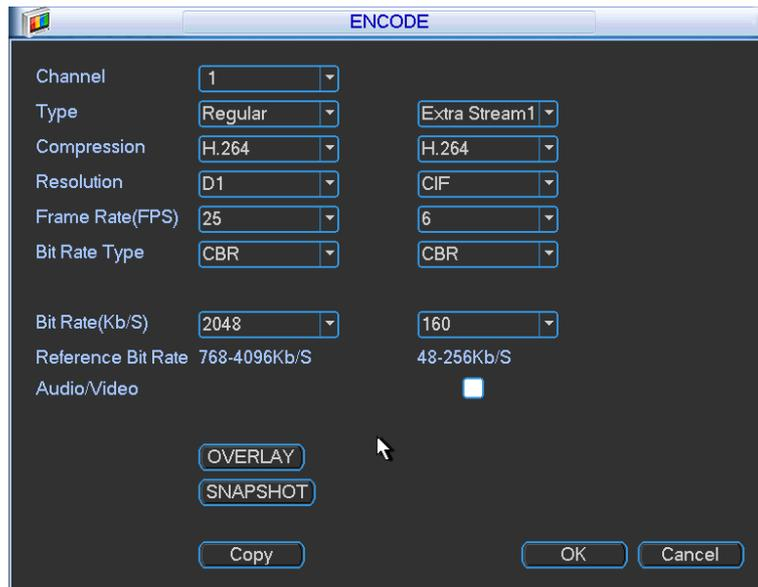
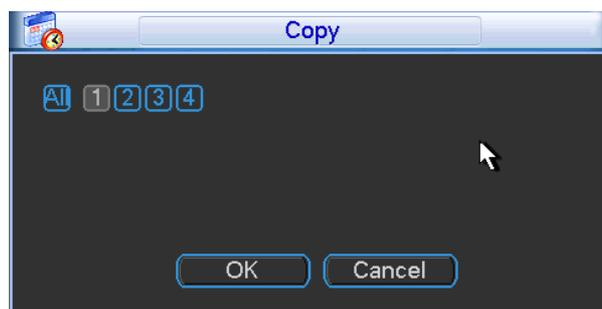

Figure 4-27
Figure 4-29
Encode setting includes the following items. See Figure 4-27.
- Copy: After you complete the setup, you can click Copy button to copy current setup to other channel(s). You can see an interface is shown as in Figure 4-29. You can see current channel number is grey. Please check the number to select the channel or you can check the box ALL. Please click the OK button in Figure 4-29 and Figure 4-27 respectively to complete the setup.